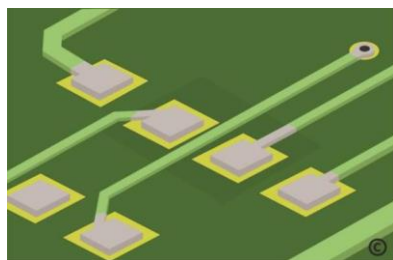

Fig. 3.12
5. Perform a visual inspection for colour match and adhesion per the IPC TM-650 specifications (**Fig.3.12**)